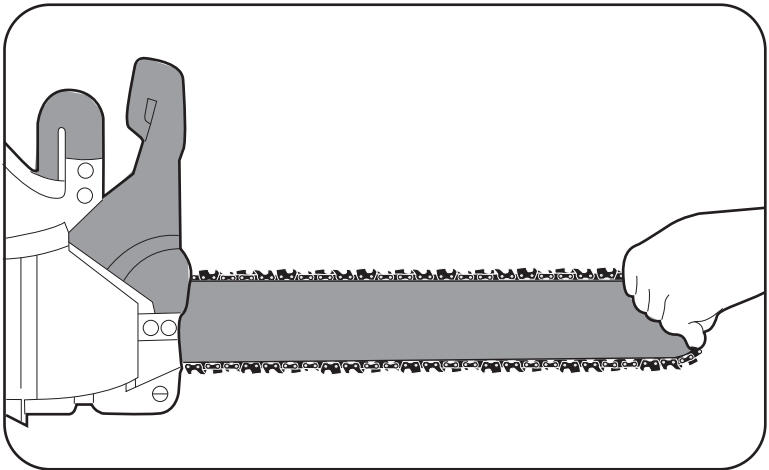

Figure 6
2. Move saw chain back and forth on guide bar by hand to make sure it is in proper mesh with sprocket. Chain should move freely on bar (Figure 6). **NOTE:** If chain is difficult to rotate on guide bar or binds, too much tension has been applied, requiring readjustment as follows: (See Figure 6 in next column).